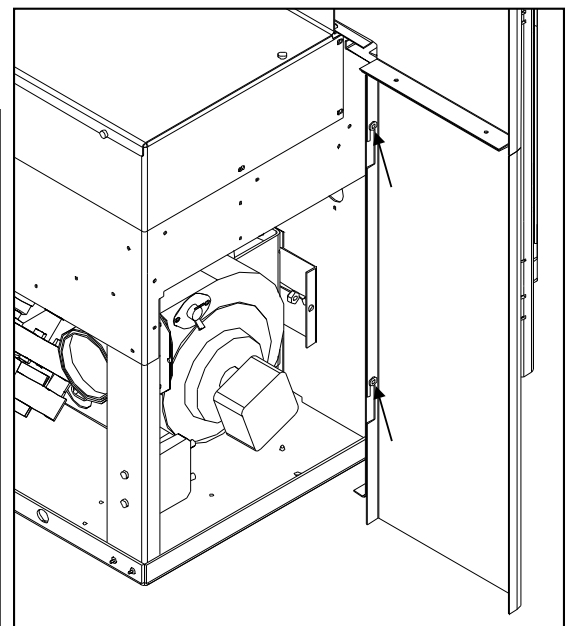

Figure 42: Installed Surround Panel.
8. Place the assembled surround panel around the stove; align the slots with the screw heads. Push surround in then down to engage the surround slots on the mounting screws (see Figure 42). Make sure the top surround panel sits flat behind the stove top.